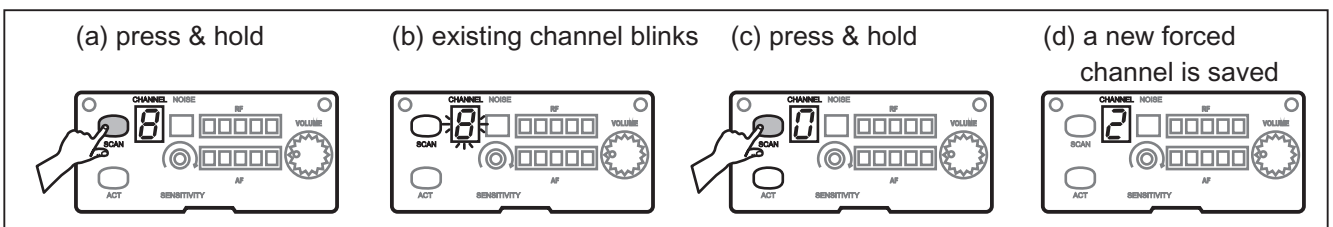

Fig. 6
Press and hold Channel (CH) button **A6** to perform a manual channel search. Existing channel blinks to denote it is ready to accept parameter changes. During blinking, press and hold Channel button to force the channel to go forward to the next channel in order. Release Channel button until a desired channel is located. This new channel is now saved. If Channel button is not pressed within six blinks, it stops blinking and reverts back to the existing channel. Fig. 6